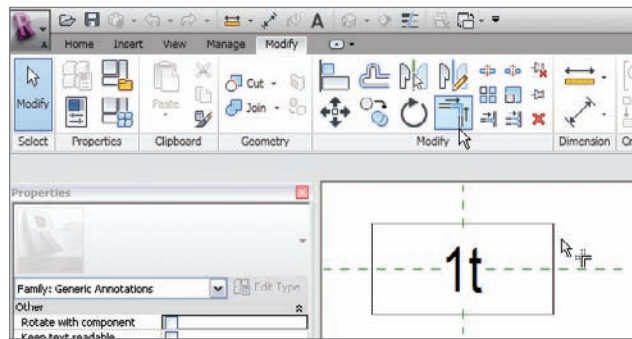

FIGURE 11.84 Creating the box
6. Offset the vertical reference plane to the left and to the right 1/8", as shown in Figure 11.84.
8. Trim the four corners so your screen resembles Figure 11.84.